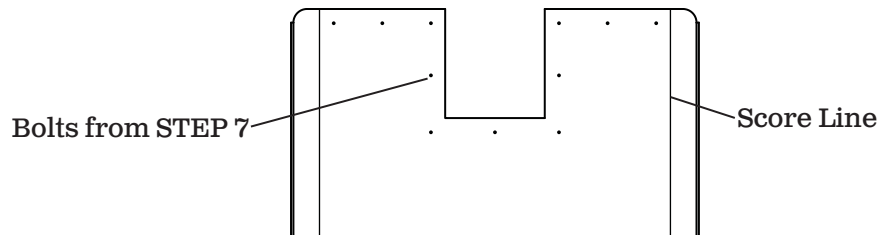

Figure 18
- 1) **Figure 18.** Must use a minimum of (10-12) 3/8" elevator bolts. Lay out and mark pattern for bolts across the bulkhead and behind the doghouse at a minimum of 6" apart making sure holes are NOT in cross members.
- 1) **Figures 18 & 19.** When using a combination of the two for every elevator bolts not used, use two self-tapping screws. Lay out and mark pattern across the bulkhead and around the doghouse at a minimum of 6" apart. Minimum distance from edge of liner and location of cross members will determine bolt pattern.